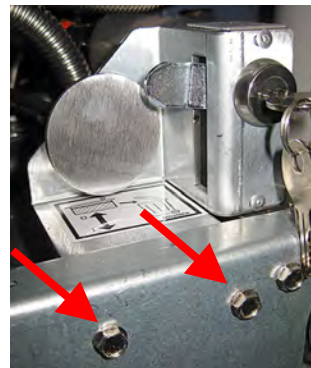

Figure 12
21. Slide the waste handle assembly in from the front of the fryer and attach with the supplied screws to the existing holes in the frame (see Figure 12).
31. Ensure the handle is pushed all the way in and locked using the attached keys (see Figure 12).